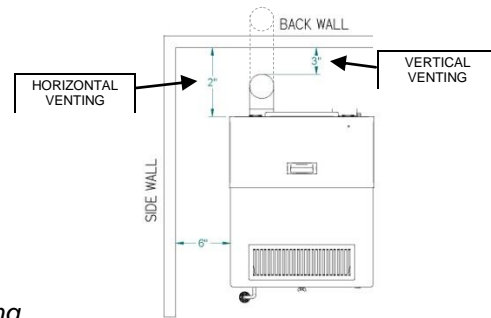

FIGURE 1
The Drolet ECO-65 has been tested and listed for installation in residential and mobile home. (refer to figure 1 & 2)
1. Position stove, adhering to clearances shown in Figures 1 & 2.